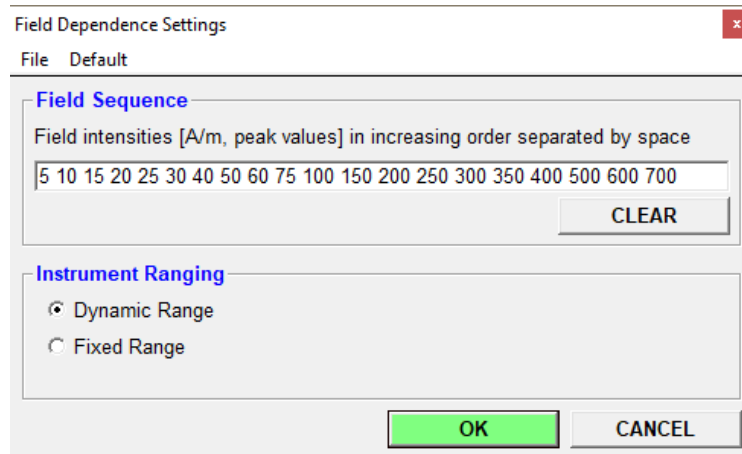

Figure 9: An example of the **Field Dependence Settings** window.
3.1.1.6.2 Temperature Rate In High Temperature Mode, the specimen is heated at a controlled rate to the maximum temperature **Tpeak** and then cooled down at the same rate to the minimum temperature **Tend**. There are four temperature rates available (Figure 9). Default temperature rate (**Fast**) is suitable for most rocks and environmental materials. For special studies, slower temperature rates (**Slow**, **Medium**) can be used but one must realize that such measurements take correspondingly longer time (see Table 4).